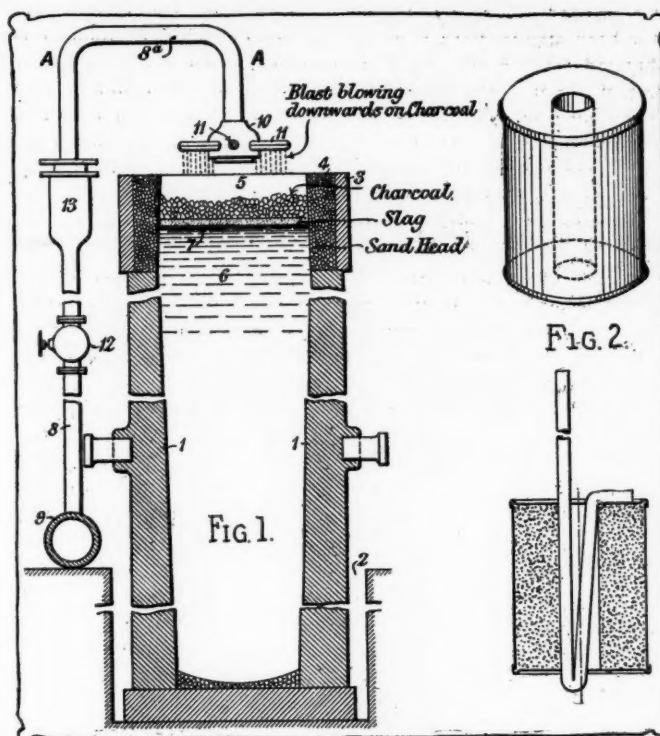

Fig. 1—Hadfield method for producing sound steel ingots. Fig. 2—Thermit cartridge used by Goldschmidt
**SOUND Steel Ingots**—The constant temptation at steel works and rolling mills to make the discard from steel ingots shorter than it should be has resulted in many fatal flaws in the steel shapes rolled from the top end of an ingot or from a billet of the defective material. In the case of expensive steels, compressive molds have been used to some extent to squeeze the pipe and the blowholes out of the ingot while it is still in the fluid state and to concentrate the segregation of impurities in a small upper layer. Two new methods have now been perfected which are much cheaper and more effective. Sir Robert Hadfield, of the Hecla Works at Sheffield, England, has developed one of these and Dr. Hans Goldschmidt, of Essen, Germany, the other. Both are in the very front rank as practical and successful metallurgists, and the new methods therefore warrant the hope that in the near future defects will be a rarity in the very large bars of steel from which crankshafts and some other automobile parts are forged, although such bars are necessarily rolled from those large-sized ingots in which the defects have been most commonly encountered. The Hadfield method is indicated in Fig. 1. It consists in heating the fluid steel in the upper part of the ingot, or other mold which may be used, and maintaining it in a liquid condition, while the rest of the ingot is cooling, by playing a blast of air into charcoal heaped on top of the molten metal. To prevent loss of heat by radiation from the metal a layer of cupola slag is placed between it and the coal. The general result is that the fluid top-portion of the ingot sinks and fills the pipe as fast as it is formed. Pipes in the lower portions of the ingots are obviated at the same time, as these are also caused by irregularities in the cooling and the molecular flow in the metal and the top-heating regulates this factor to some extent throughout the mass. It is figured from the experience of the past few years, applying to a production of many thousands of tons, that the discard may be reduced from an average of about 20 per cent. to about 7 per cent. with an all-around gain in the quality of the product and that the saving on a large output may amount to from 8 to 12 shillings per ton, the value of the discard metal for remelting being fully considered.